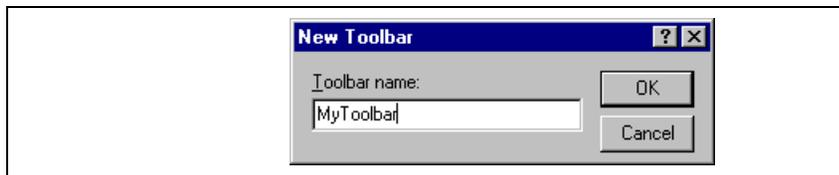

Figure 6.2: New Toolbar Dialog
2. Click the "New..." button. The dialog shown in * MERGEFORMAT figure 6.2 will be displayed.